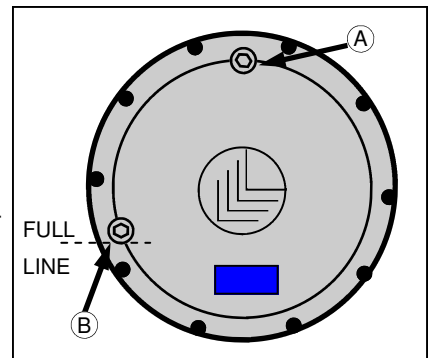

FIG 115-1
**OIL LEVEL**— Each wheel hub should maintain a proper oil level at all times. Less than that would limit lubrication and over full would cause overheating and damage. To check the oil level, position the hub so one of the face plugs is positioned at 12 O'clock (fig. 115-1, item A). The other plug will be either at 8 O'clock (fig. 115-1, item B). (When positioned correctly the arrows in the center of the hub should make an "L".) Remove the lower plug; if no oil comes out, the oil level is too low. Check wheel hub oil level every 100 hours.
To change the wheel hub oil, position the plugs so that one is at the 6 O'clock position, and the other is between the 2 and 3 O'clock positions. Remove the bottom plug to drain the oil. Once all of the oil is drained, rotate the hub so that the plugs are in the filling position (fig. 115-1). Refill wheel hub with gear oil as described above.